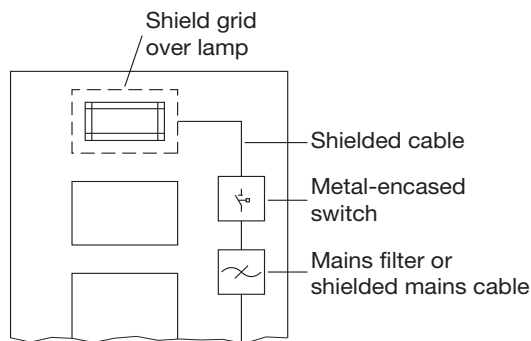

Figure 4: Interference suppression of fluorescent lamps in cabinet
- ☐ Do not use fluorescent lamps because they generate interference fields. If the use of fluorescent lamps cannot be avoided, the interference suppression measures shown in Figure 4 must be implemented.